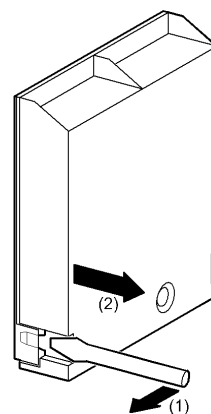

Fig.5
- Prise cover loose using screwdriver in position (1) then lever off with screwdriver in position (2) at either side. See Fig. 5.